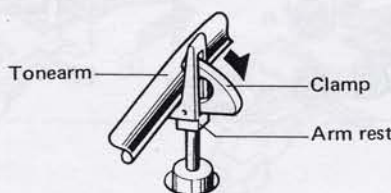

Fig. 12
4. Lower the arm rest clamp to the right (Fig. 12). This frees the tonearm so that it can now move. Take care that you do not damage the stylus.